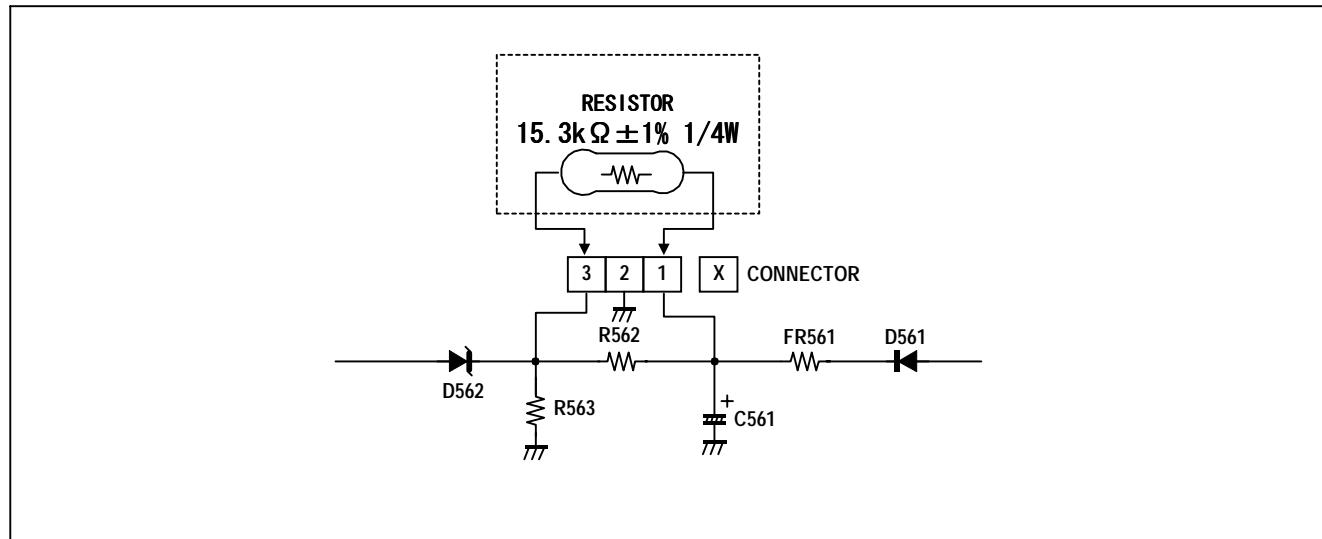

Fig. 2
- (1) Turn the POWER SW ON.
- (2) As shown in Fig.2, set the resistor (between **X** connector **1** & **3**).
- (3) Make sure that the screen picture disappears.
- (4) Temporarily unplug the power cord.
- (5) Remove the resistor (between **X** connector **1** & **3**).
- (6) Again plug the power cord, make sure that the normal picture is displayed on the screen.